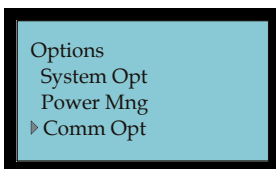

Figure 2-106 Select Comm Opt
2. Press **OK** to display Options menu and select Comm Opt (see **Figure 2-106**).